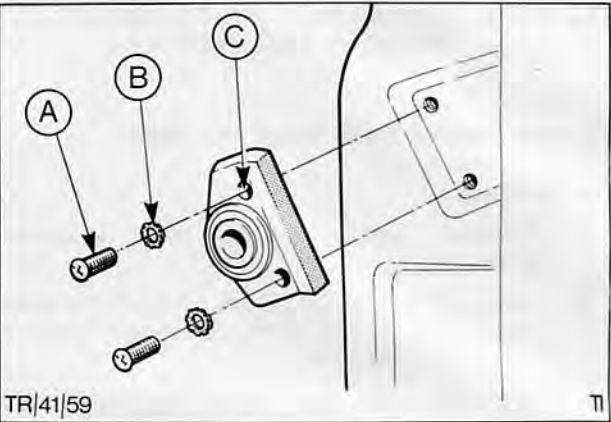

Fig. 41. Support (outer) assembly to 'B' pillar
1. Remove two screw and shakeproof washer assemblies and detach support from front 'B' pillar, Fig. 41.
14. Position outer support on 'B' pillar and secure with two screw and shakeproof assemblies, Fig. 41.